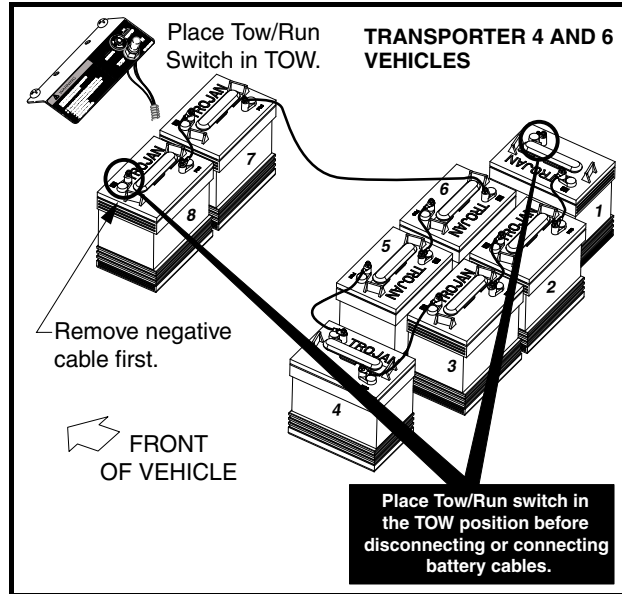
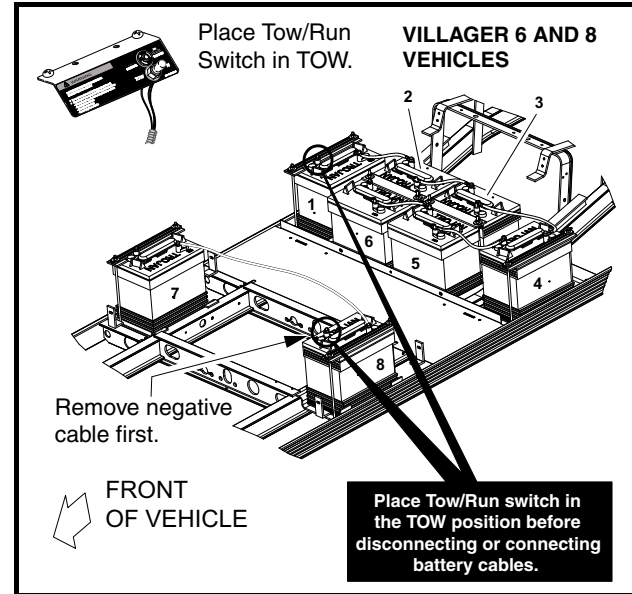

Figure 1-3 IQ Plus Transporter 4 and 6 Vehicles
Figure 1-4 IQ Plus Villager 6 and 8 Vehicles
- To avoid unintentionally starting the vehicle, disconnect the batteries as shown (Figure 1-2, Page 1-3 or Figure 1-3, Page 1-4 or Figure 1-4, Page 1-4).
3. Disconnect the batteries, negative (–) cable first, as shown (**Figure 1-2, Page 1-3**) (**Figure 1-3, Page 1-4**) (**Figure 1-4, Page 1-4**).